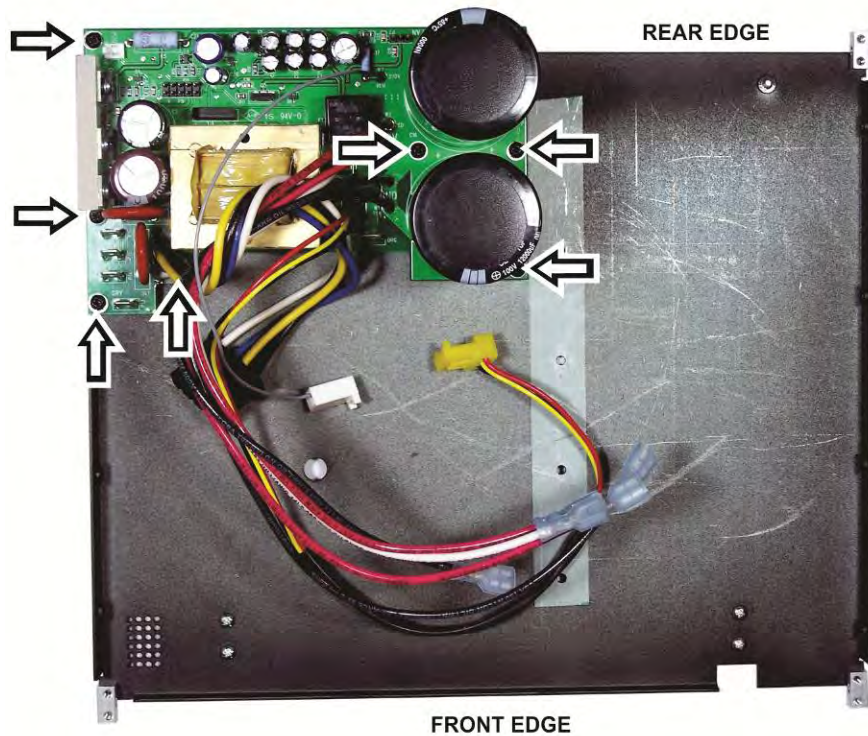

Figure 11. Mounting the Power Supply Module on the Bottom Cover.
- Mount the power supply module on the bottom cover as shown in Figure 11. Be sure to install all seven screws and washers in the locations shown by the arrows in the figure. Note that one of the screws threads into a 2D fastener you installed at the corner earlier.